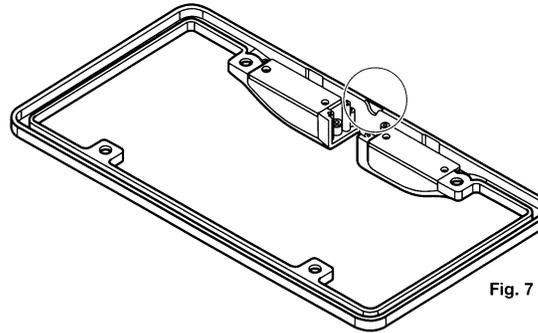

Fig. 7
- C. File the marked area on the license plate frame, and route the light wire to the top hole. (Fig. 7)